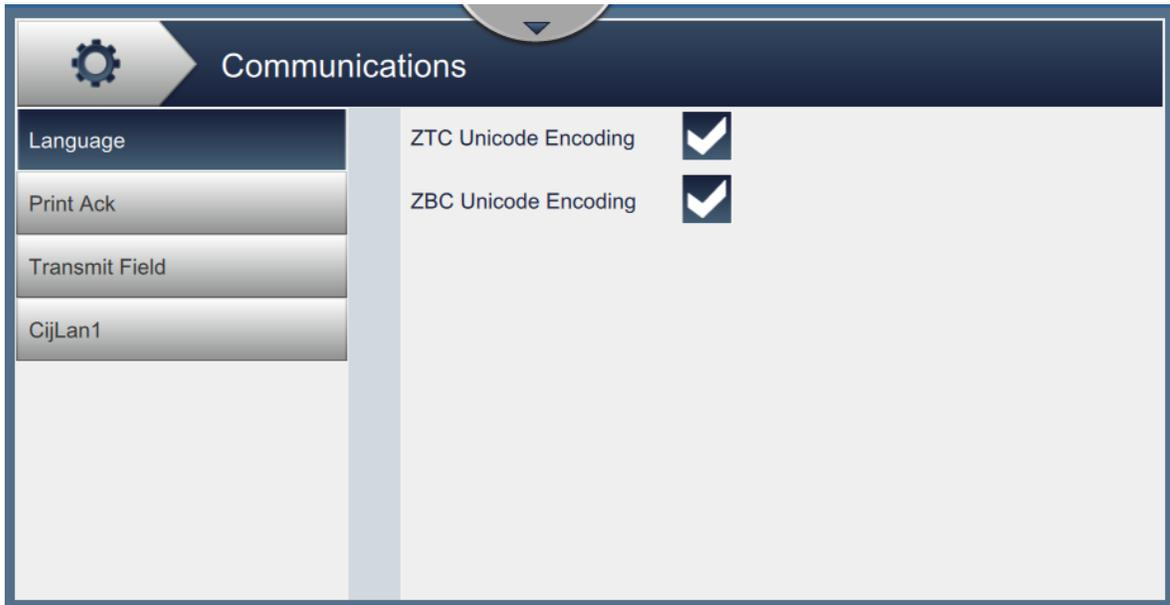

Figure 6-12: Communications Screen
1. Touch the  button from the Tools screen. The Communication screen opens as shown in the Figure 6-12.